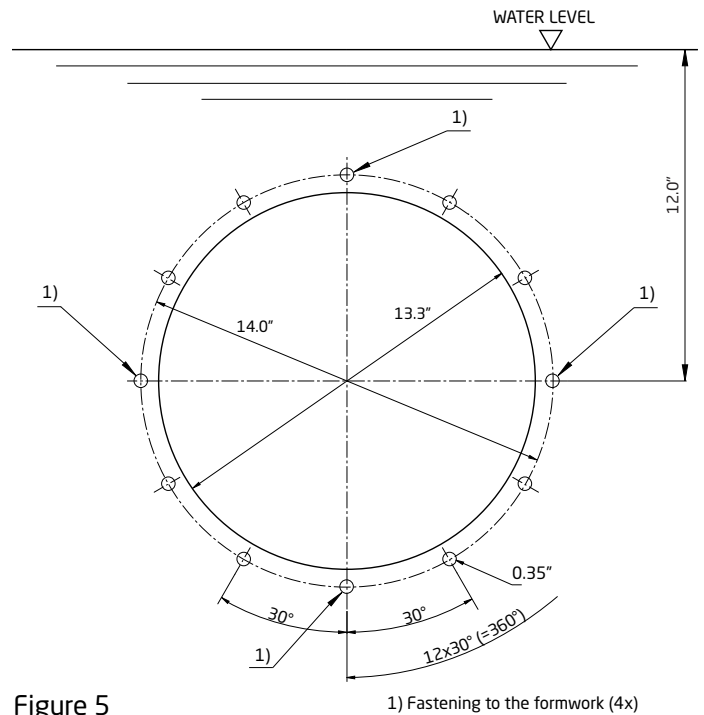
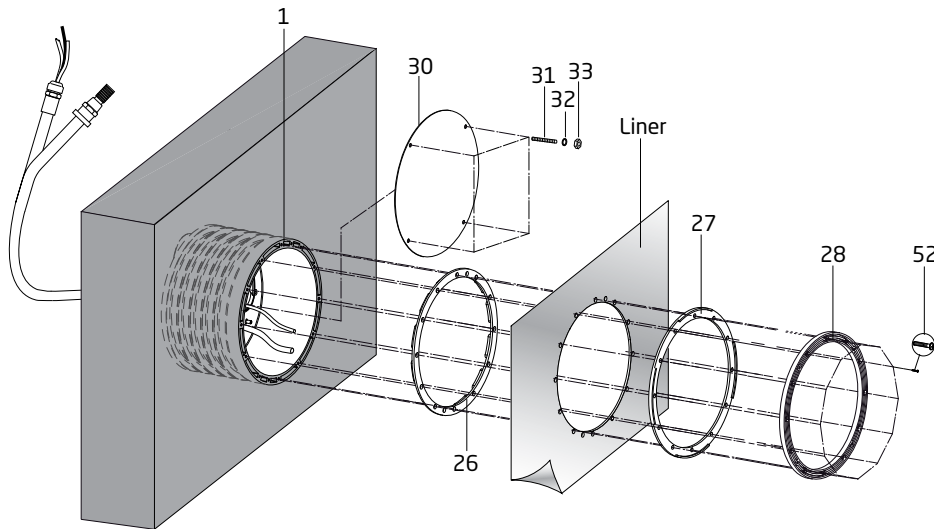

Figure 5
Figure 7
- Create formwork for the jet housing using Figures 5 & 6.
- Drill the four M8 holes marked (1) in Figure 5 in the formwork for the inner pool wall. Cut a 14.5" hole in the formwork for the outer pool wall. **CAUTION:** The center of the jet housing **MUST BE** mounted 12" **BELOW** the water line as shown in Figures 5 & 6
- Install the four (4) M8 x 80mm gunitite cover studs (part #31) in the front of the jet housing. They should be in the same position as the holes marked (1) in Figure 5. Slide the gunitite cover (part #30) over the studs. Tape the edge of the gunitite around the entire jet housing to keep concrete out of threaded inserts and out of the jet housing.
Use the provided mounting template (*small scale version of template shown in Figure 5*) to mark and drill the holes through the liner (twelve (12) M8 clamping ring screw holes and 13.3" center hole). Insert the gasket with knobs in the front of the jet housing (part# 26). Install the liner with the holes aligned to the jet housing. Align clamping ring (part# 28) and place the clamping ring gasket (part# 27) and install using the twelve (12) M8 x 30 clamping ring screws (part# 52). (See Figure 7)
Use the template in Figure 5 to mark and drill the holes through the liner (twelve (12) M8 holes and center 14" hole). Insert the gasket with knobs (part# 26) in the front of the jet housing. Install the liner with the holes aligned with the jet housing. Install the clamping ring (part# 28) and clamping ring gasket (part# 27) using the twelve (12) M8 x 30 clamping ring screws. (See Figure 7)